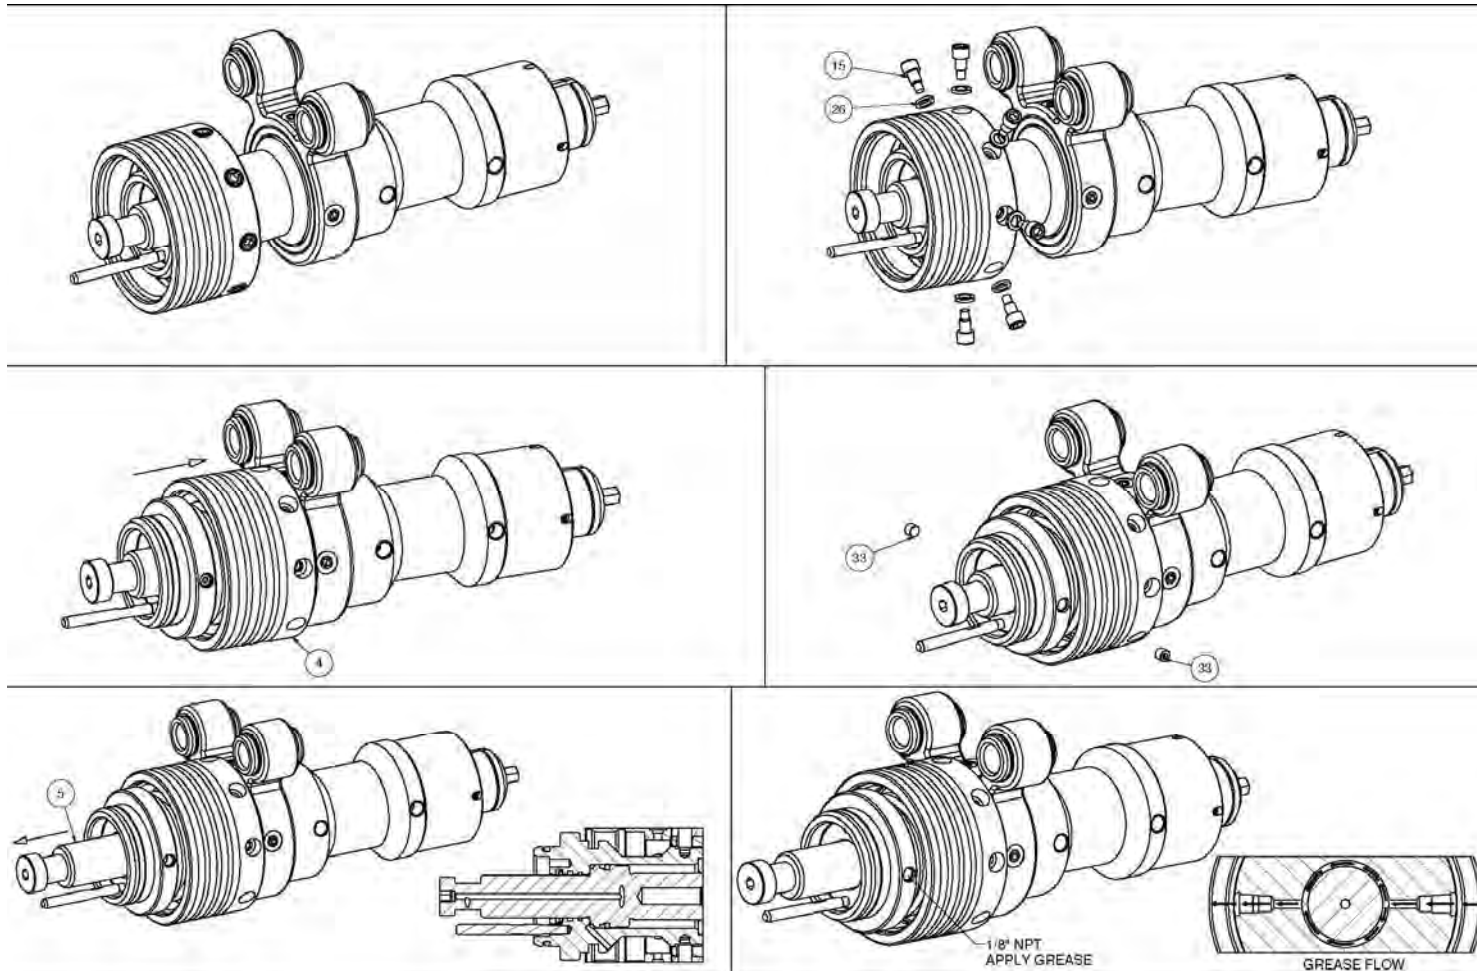

Figure 13: Instructions for greasing of the Piston Shaft
- Re-apply grease to the balanced piston, ref Figure 13: Instructions for greasing of the Piston Shaft